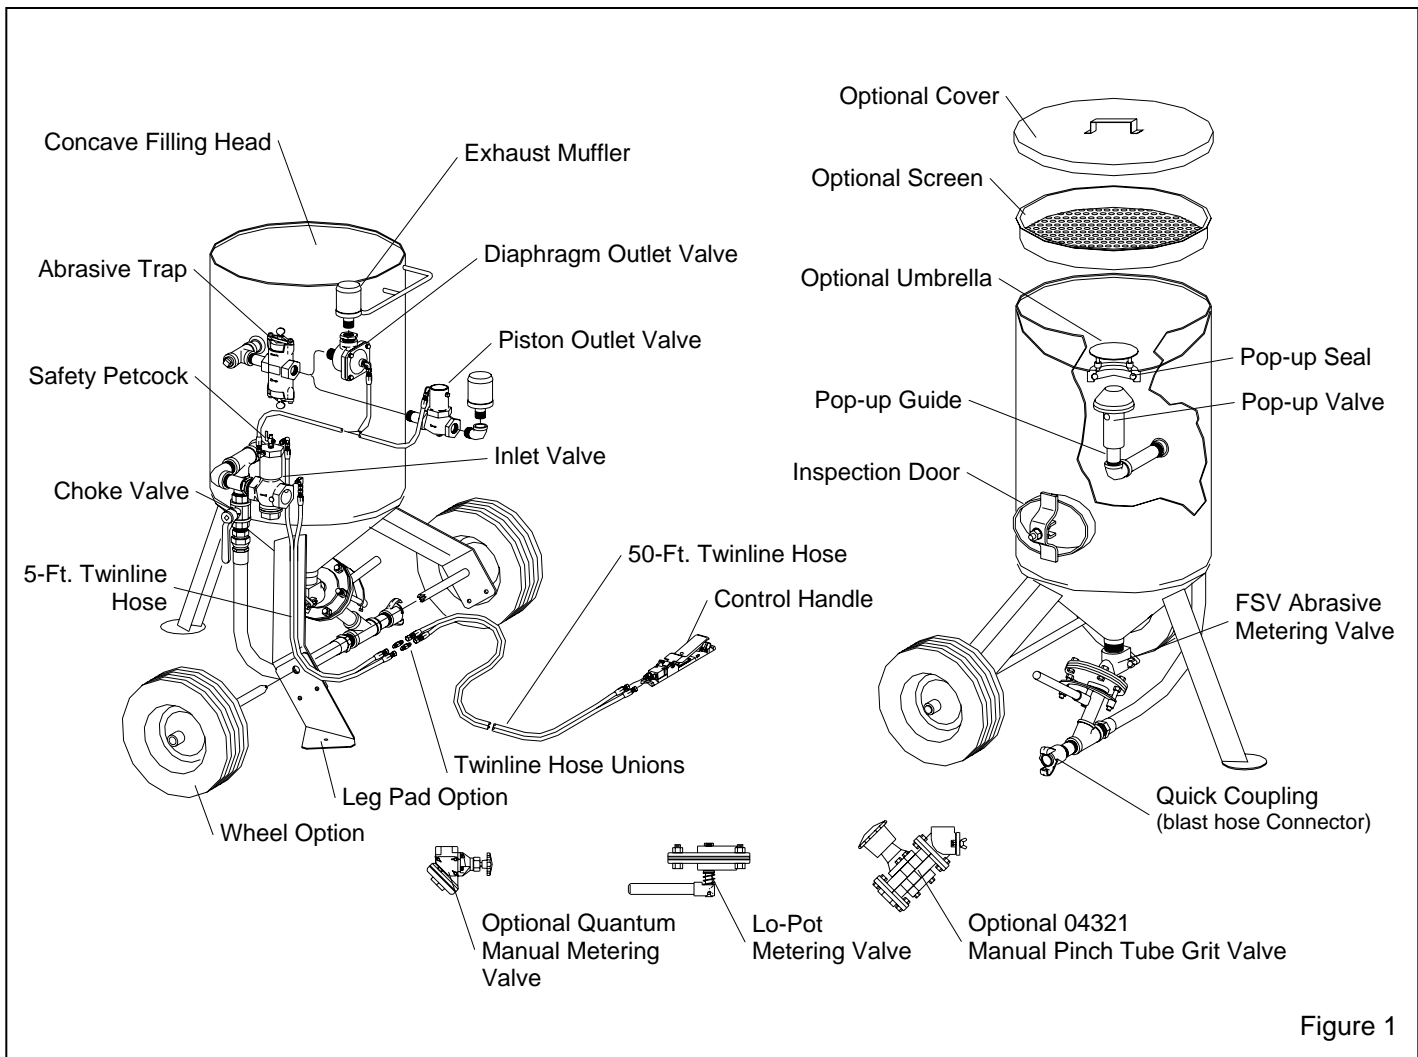
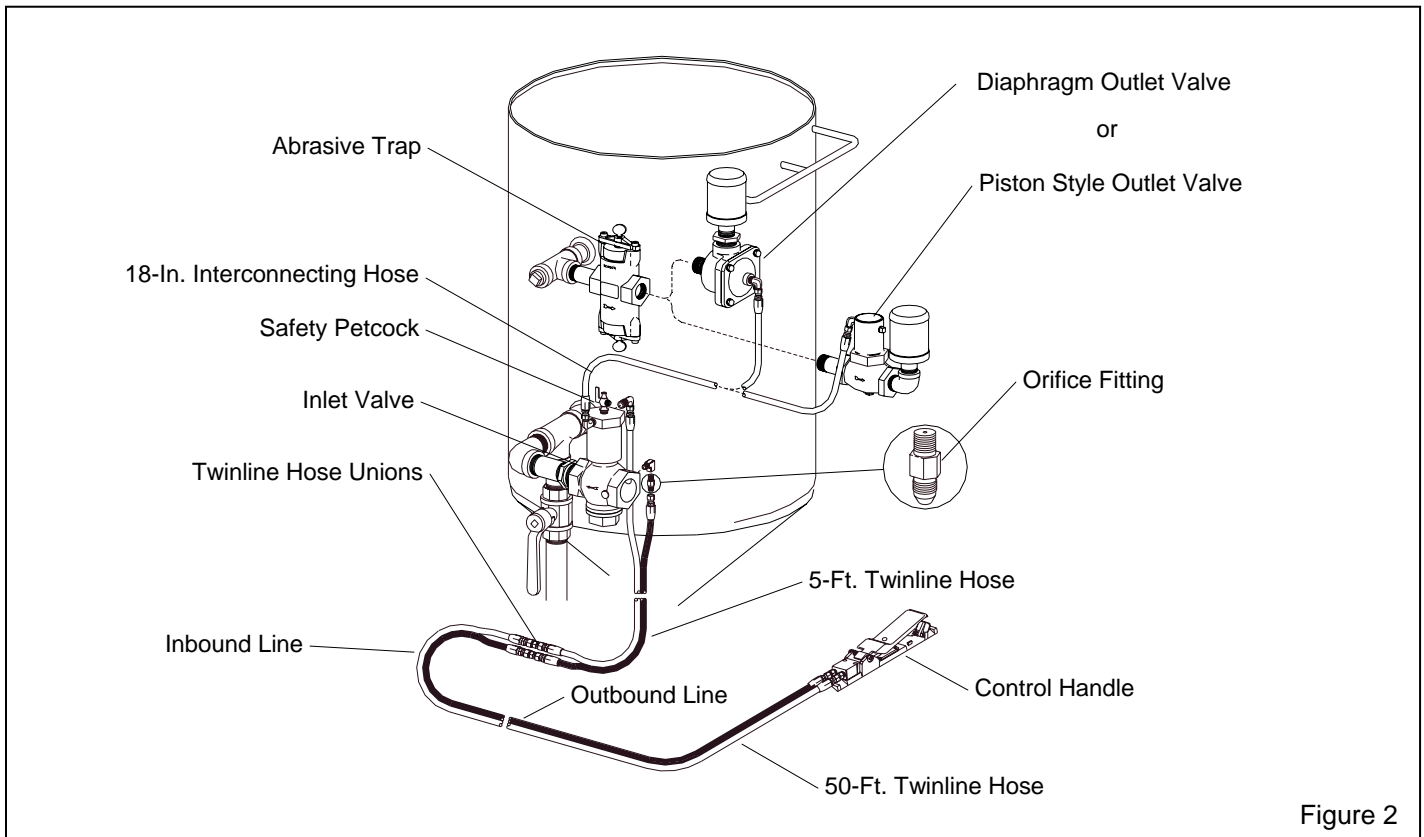
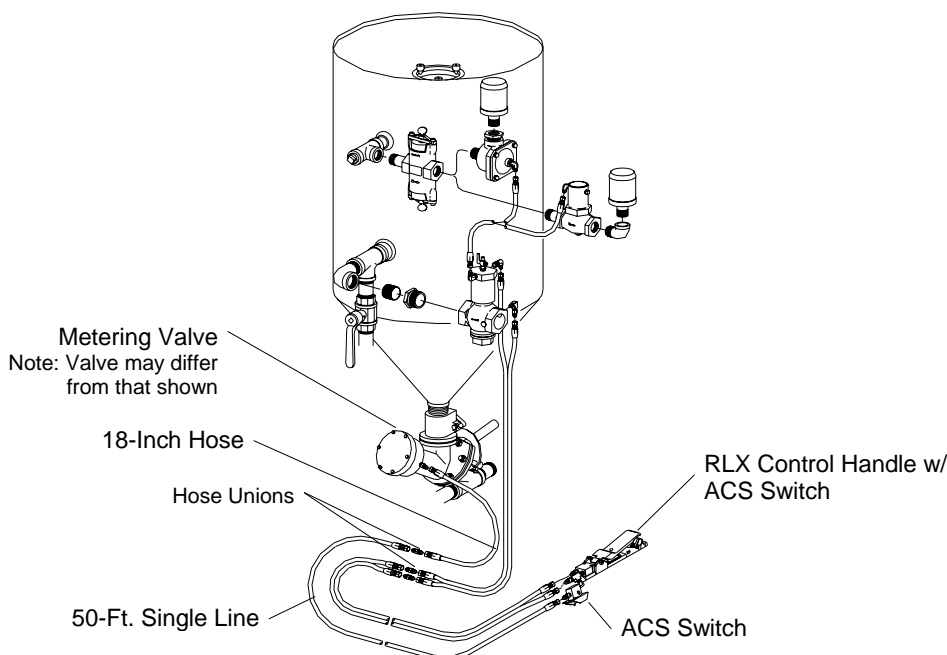

Figure 1
Figure 2
Figure 3
1.3.1.1 The primary components of the blast machine and the remote control system are shown in Figure 1. Additional components of the remote controls are shown in Figure 2. Additional parts used with optional ACS cut-off systems are shown in Figure 3.
1.3.3.3 The components of the remote control system are shown in Figures 1 and 2. They include the inlet valve, piston or diaphragm outlet valve (the piston valve is used in most applications, the diaphragm valve is recommended for use with fine mesh or aggressive abrasive), RLX Control Handle, 50-foot and 5-foot twinline hoses, 2 control hose unions, and an 18-inch long interconnecting hose.
1.3.3.5 Clemco remote controls operate pneumatically on return air. If the control handle lever (the activator for the remote control system) is in the up (no blast) position, one stream of air travels down the outbound twinline (See Figure 2) and escapes through the opening located under the control handle lever. The normally-closed inlet valve remains closed, and the normally-open outlet valve remains open. As long as air escapes through the handle's opening, the remote control system remains inactive. When the lever is pressed, the opening is sealed, and air from the outbound line returns through the return line to open the inlet valve and close the outlet valve. This action pressurizes the blast machine and begins the blasting. Releasing the handle exhausts the control air, which closes the inlet valve, and opens the outlet valve to depressurize the blast machine and stop the blasting.
1.3.4.1 Parts used with optional ACS cut-off systems are shown in Figure 3. ACS systems include a 50-foot single line hose, and additional 18-inch long, inter connecting hose, an RLX control handle with ACS air switch assembly, and pneumatically operated metering valve. The metering valve supplied with the system may differ from the one shown. NOTE: Instructions and a list of replacement parts for the metering valve are in the manual supplied with the valve.
Clemco supplies an exhaust muffler with all blast machines of 2 cu. ft. capacity and larger. The muffler reduces exhaust noise and prevents abrasive from exhausting upward or sideways into the air. When the blast machine is depressurized, the muffler body pops up to diffuse the air and abrasive. When the machine is fully depressurized, the muffler body drops, permitting trapped abrasive to empty. For the muffler to work properly, it must be installed with the body facing up, as shown in Figure 1.
2.2.1 Attach the 5-foot twinline hose to the inlet valve as shown in Figure 2; one side connects to the unused upper elbow, the other to the orifice fitting. Either side can connect to either fitting.
2.3 Set up for optional ACS Ref. Figure 3. If the remote control does not have the ACS feature, skip to Section 2.4.